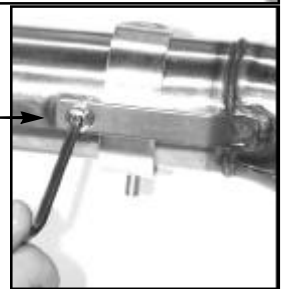

Figure 3
2. Slip the outlet of the collector pipe into the inlet tube of the muffler. Figure 3.
3. Align the welded nut on the collector pipe to the strap on the muffler inlet and start the M6 x 12 screw into the nut. **Do Not Tighten.** This will maintain alignment. Figure 3.